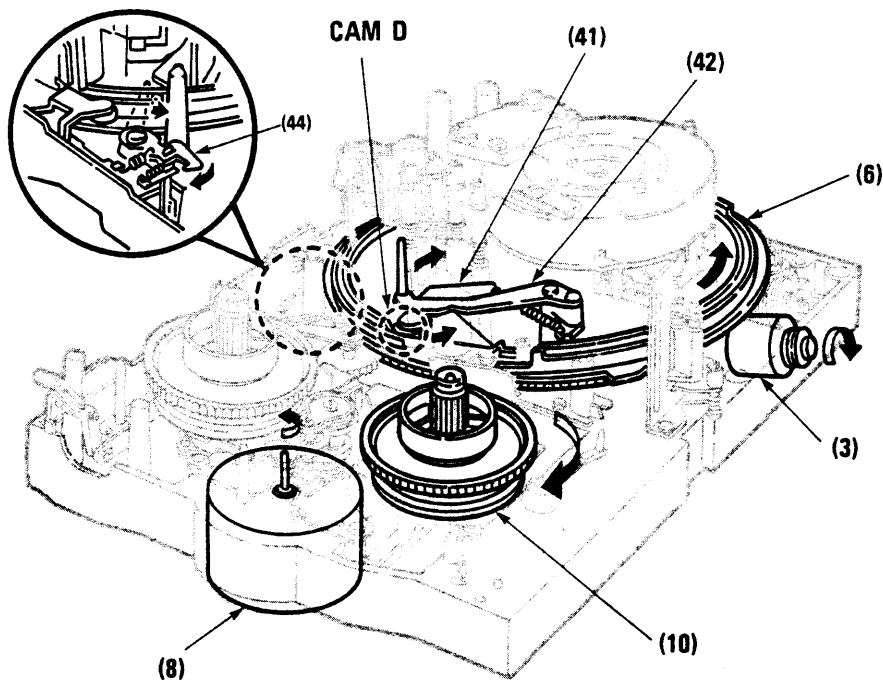

Fig. 3-3-19 F FWD mode
6. F FWD MODE (See Figs. 3-3-19, 3-3-20.)